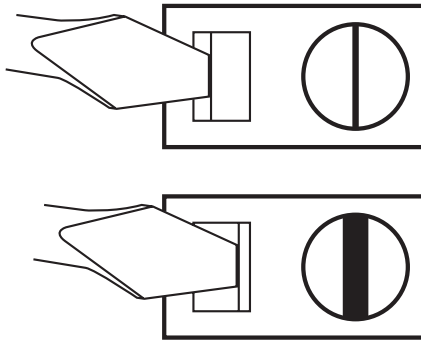

Figure 2. Connecting bare wires to the rear power-entry card.
2. Use a small flatblade screwdriver to open the cage clamp as shown in Figure 2. Insert the stripped portion of the wire into the opening and remove the screwdriver. The cage clamp will clamp the wire, producing a reliable connection. Make sure all strands of wire are captured and that there is no exposed wire.